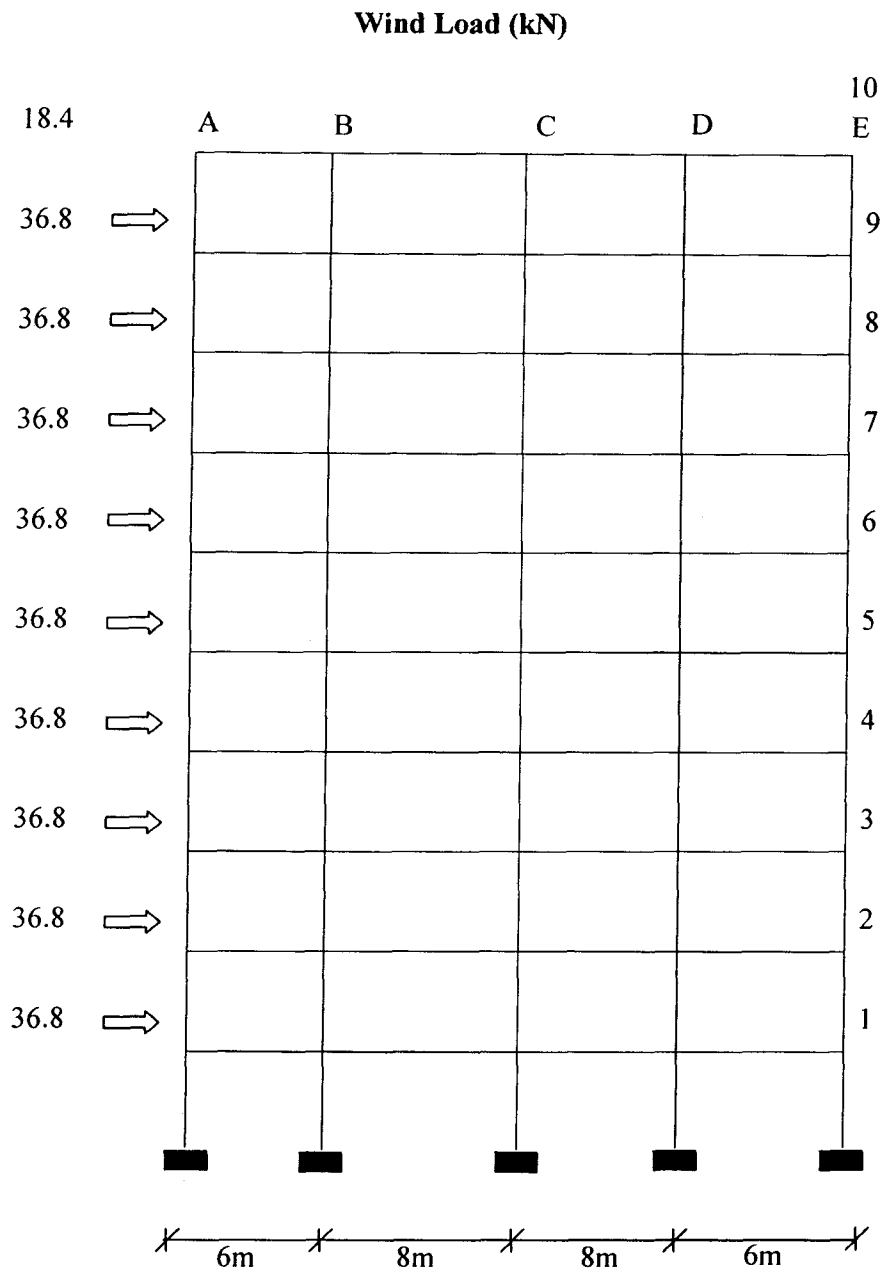

Figure 3
- (b) Ten-storey rigid frames as shown in Figure 3 reflects the terrain category 3 in Kuantan with the basic wind speed of 33.5m/s^2 . The basic wind speed has been converted into equivalent horizontal force as indicated in the figure. The story height is typically at 3.0m, each giving give a total height of 30m for the whole building. The frames are spaced at 9m. Using the Portal Method, calculate :
- (c) Determine the limit of total deflection for building in Figure 3 and state the inter story drift limit for any tall building.